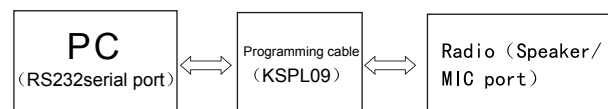

Figure4-1
- b. Connect the radio to the computer serial port with the specified programming cable (KSPL-09), See Figure 4.1.
Connect the radio to the radio communication port with the specified programming cable (KSPL-09). See Figure 4.1.